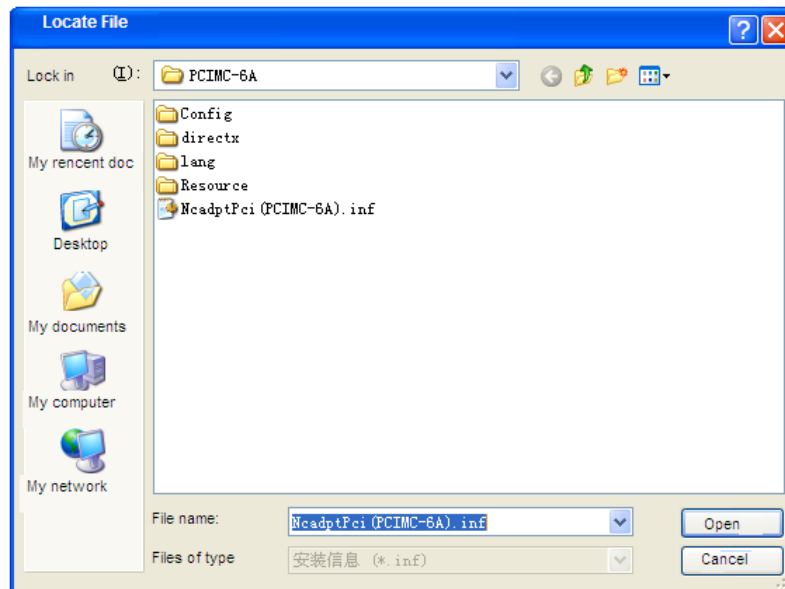

Fig. 2-5 Select the hardware driver
- 6) Click "Browse" to open a dialog box named "Locate File", as shown in Fig. 2-5, select the target hardware driver in the list. Choose the target file "NcadptPci(PCIMC-6A).inf" under the directory of *C:\ProgramFiles\Naiky\PCIMC-6A*.